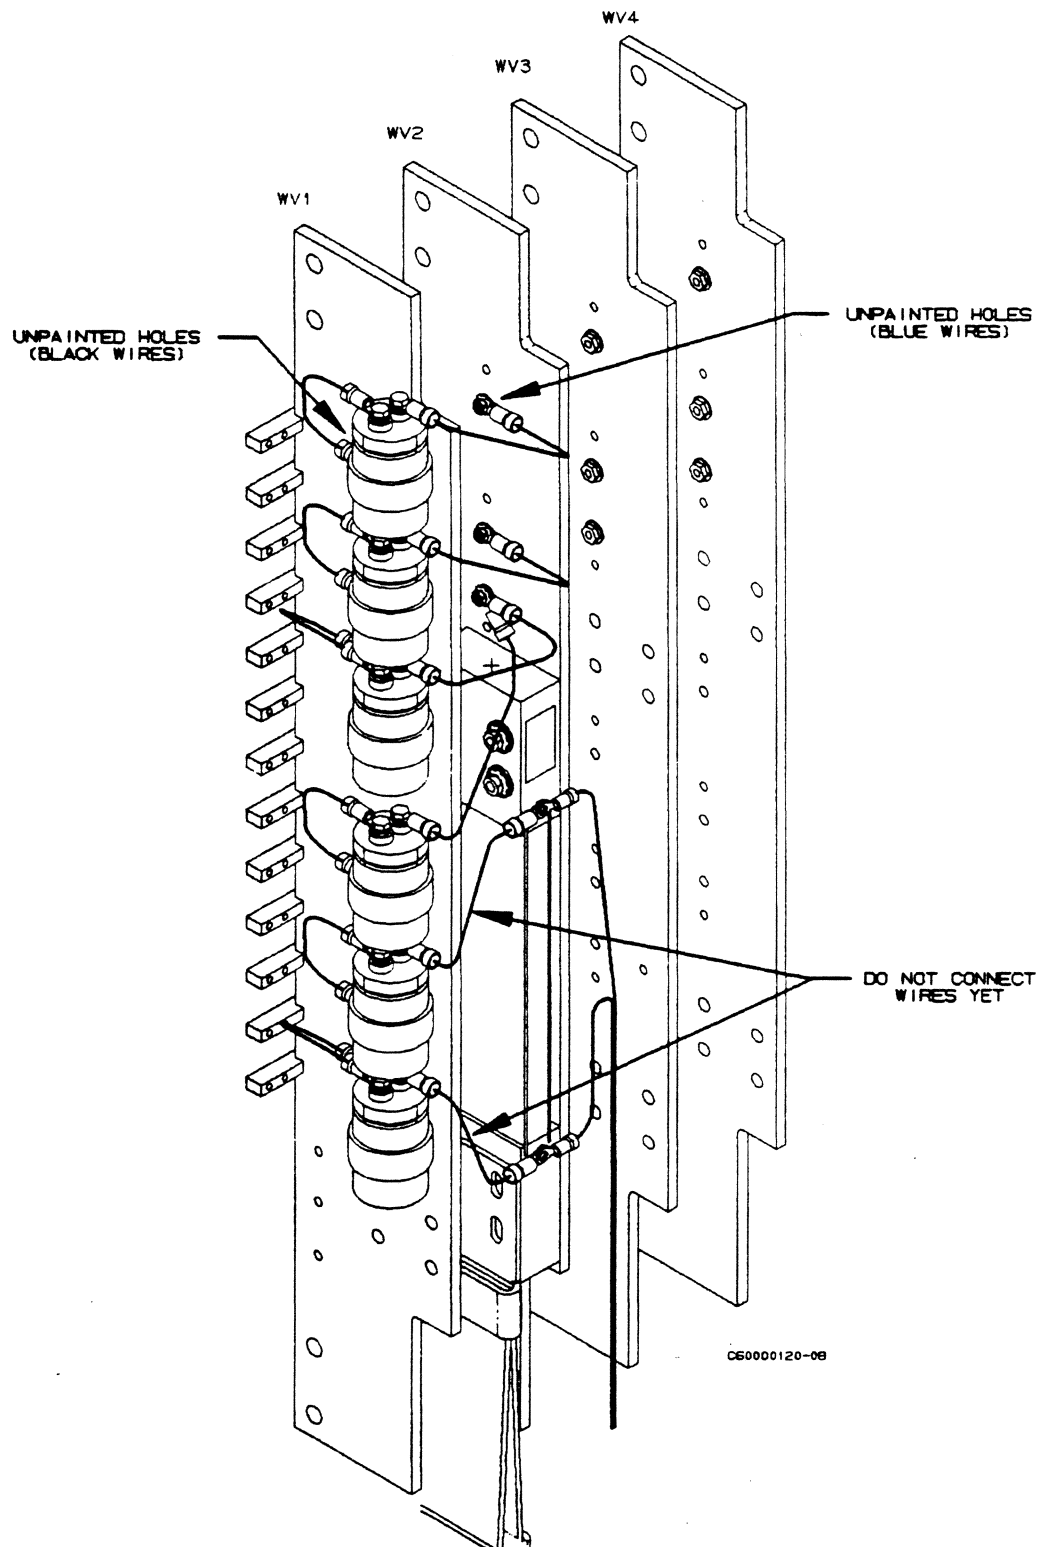

Figure 3-23. Capacitor Installation on CP-1
- ___ 4. Attach six unmarked capacitors to side of WV1 as shown in figure 3-23. Torque screws to 1.9 N·m (17 lbf·in).